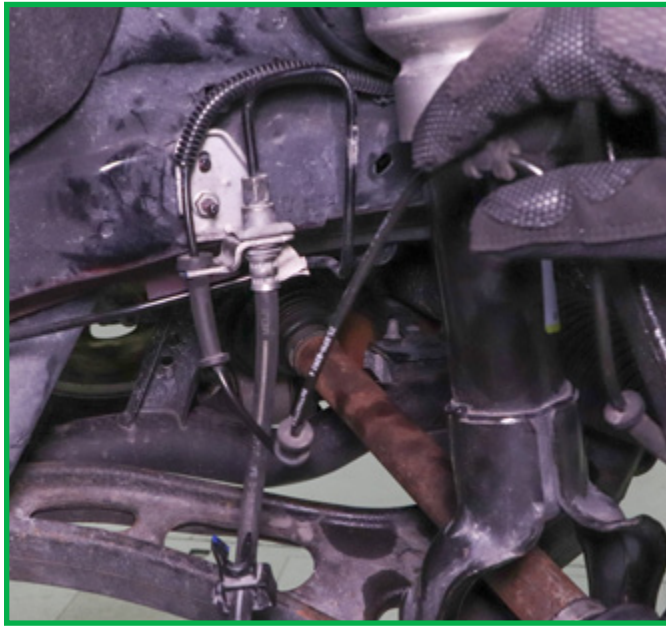

FIGURE 7
7. Clear speed sensor wire from brake line path. (Figure 7)